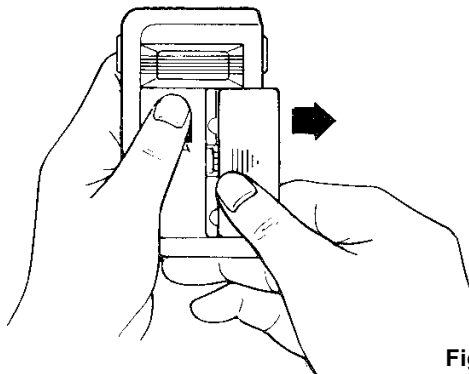

Fig. 1
1. Remove the battery cover by sliding in the direction indicated by the arrow on the unit surface. (Fig. 1)